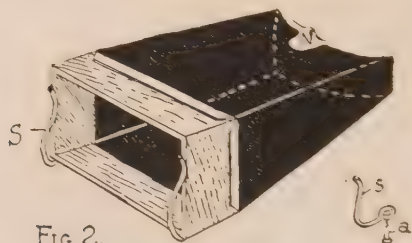

FIG. 2.
Now for the view-box, *Figure 2*. Select a small cigar box, as shown. Knock the bottom out and fit a square paper funnel at one side. This box, of course, should be large enough so
Figure 1 shows the model complete. *Figure 2* gives a view of the toy with a side removed. *Figure 3* shows details of the belt conveyor and buckets. Annexed to *Figure 3* are some of the other details of the making. How the toy works is shown in *Figure 2*, where you can see the parts better.
First, grain — or its play substitute, sawdust — is put into the hopper *G*, *Figure 2*, below at one end of the elevator. When you turn the crank *H*, *Figure 1*, outside the building, the belt *B*, *Figure 3*, between the two
one side on as in *Figure 2*, making as good a job of it as you can.
Plane off a roof piece *B*, as shown in *Figure 1*, slanting it off from the center line and letting it overhang a quarter of an inch all the way around. Nail this in place carefully. Next fit in the pieces *a* and *c*, arranging them as shown in *Figure 2* to leave plenty of room for the spools *S S* in their proper places.
Now take two tape spools, *W*, *Figure 2*, and with a three-cornered file or with your knife cut grooves around the rim. Through the hole in the center
- FIG. 2 -
These finished, cut two pieces *B* from the odd pieces of cigar box or of other thin wood, — both alike, rounded at the ends, three quarters of an inch wide, and long enough to stick out an inch beyond the pieces *a* when put in the position shown in *Figure 2*.